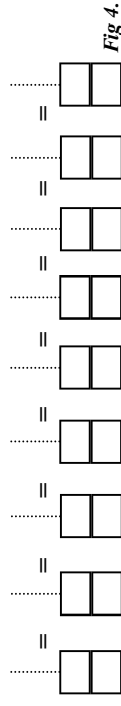
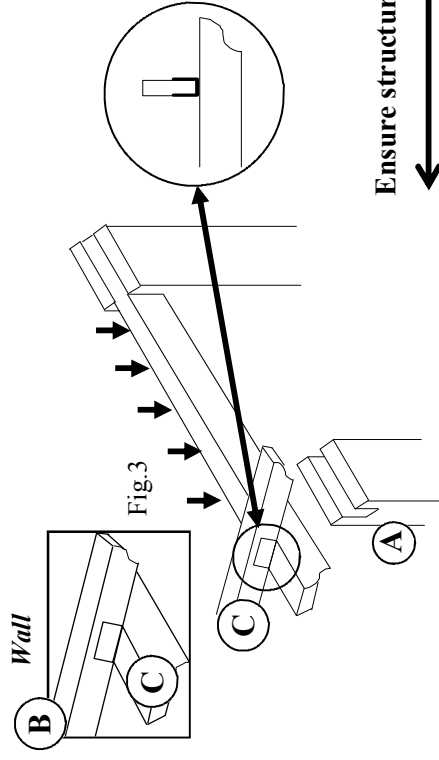

Fig.4
Fig.3
- Fix one of the Rafters (C) between the wall rafter and the end post (as Fig.3) using U clips (D).
- Position the other end post and Rafter (B) and fix at the centre post.
- Fix a second Rafter (C) between the wall rafter and post as step 5 using Rafter Blocks.
- Fix a Rafter (C) from the centre post to the joint of the wall rafters.
- The remaining Rafters (C) should be spaced equally between the rafters fitted already (Fig.4)